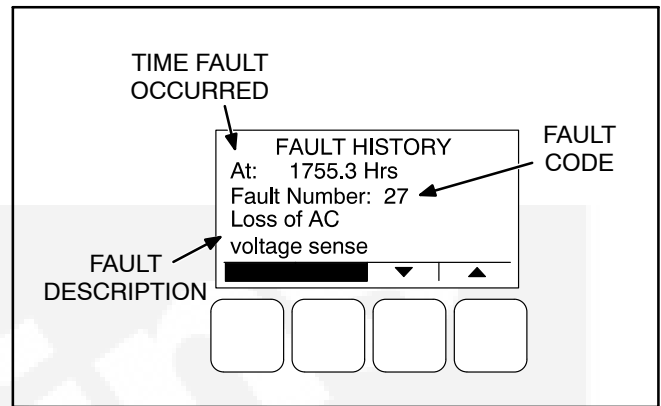
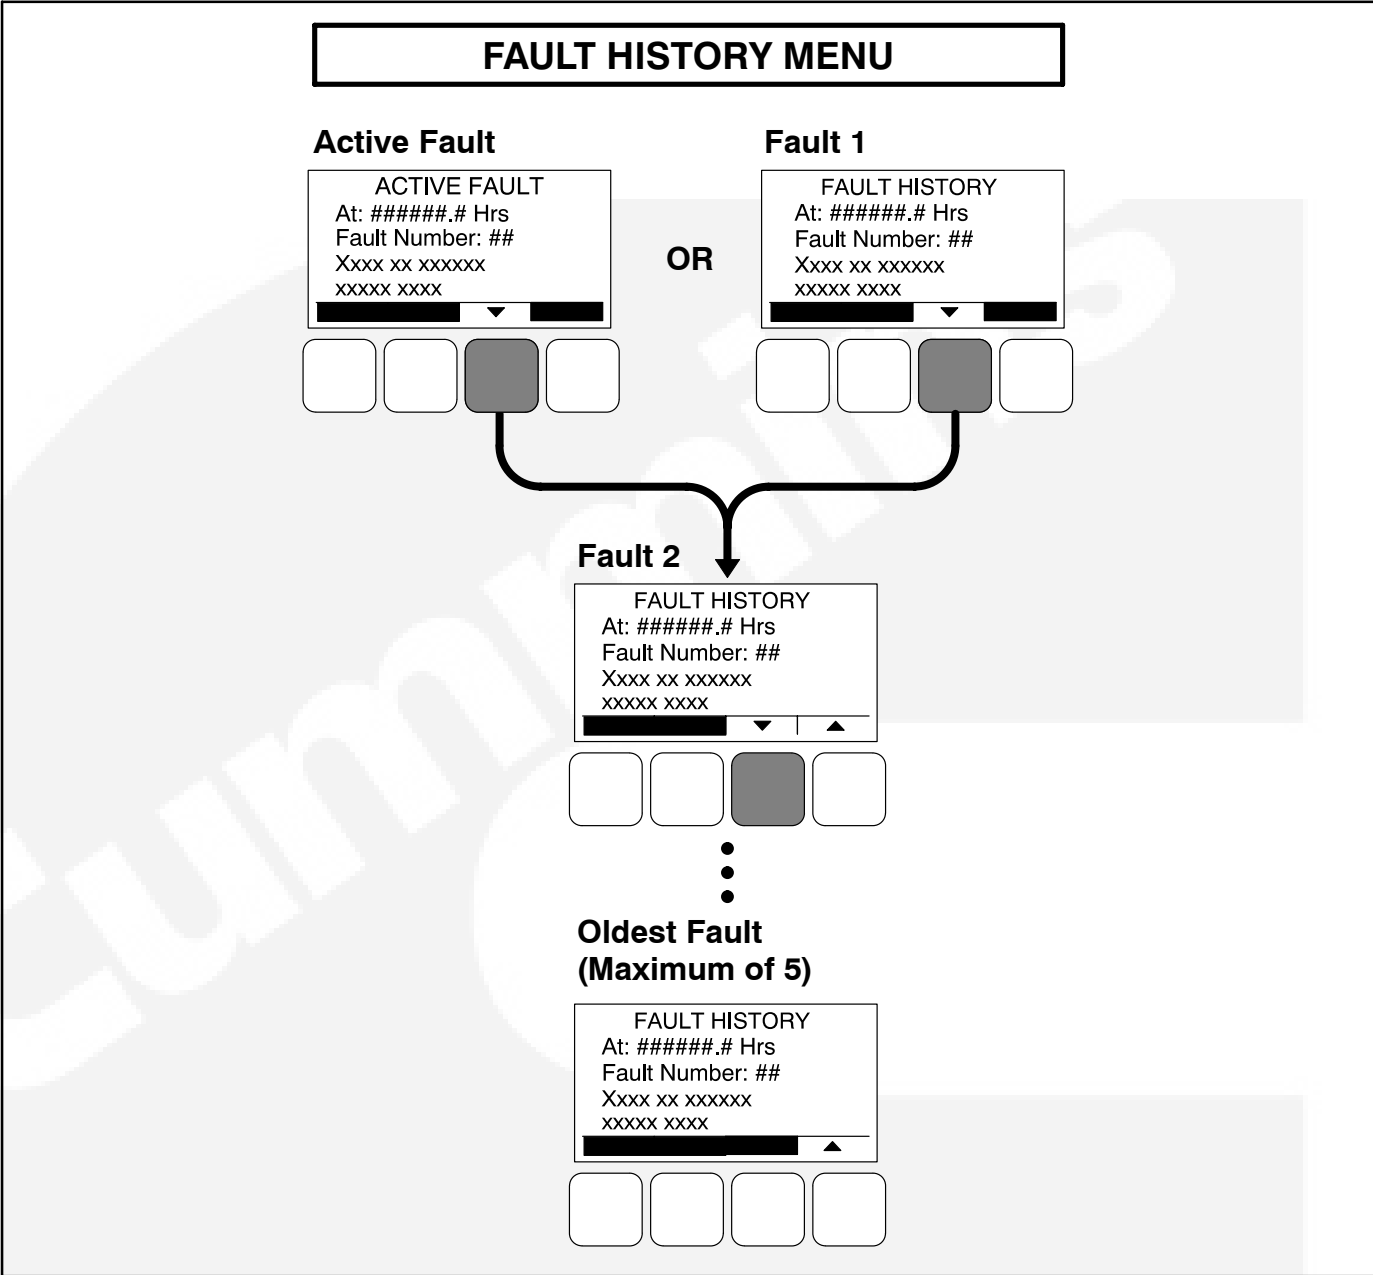

FIGURE 4-17. FAULT HISTORY MENU EXAMPLE
FIGURE 4-18. FAULT HISTORY MENU
Figure 4-18 shows a block representation of the Fault History menu. The first Fault menu is displayed when the (4) button is pressed on the second Service Menu. If there are any active fault sub-menus, an “Active Fault” heading is displayed for the most recent active fault. All other fault sub-menus display a “Fault History” heading. Five of the most recent faults can be viewed. An example of how a fault code is displayed is shown in Figure 4-17.